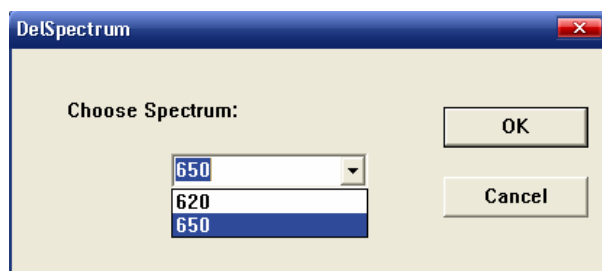

Figure 6-2. Dialog box for deleting a spectrum band
c. Click the button **Del Spectrum**, choose the spectrum band that we want to delete as Figure 6-2 indicates, and press Button **OK** to delete it. After this step the tissues parameters and the light sources parameters related to this spectrum will be deleted.